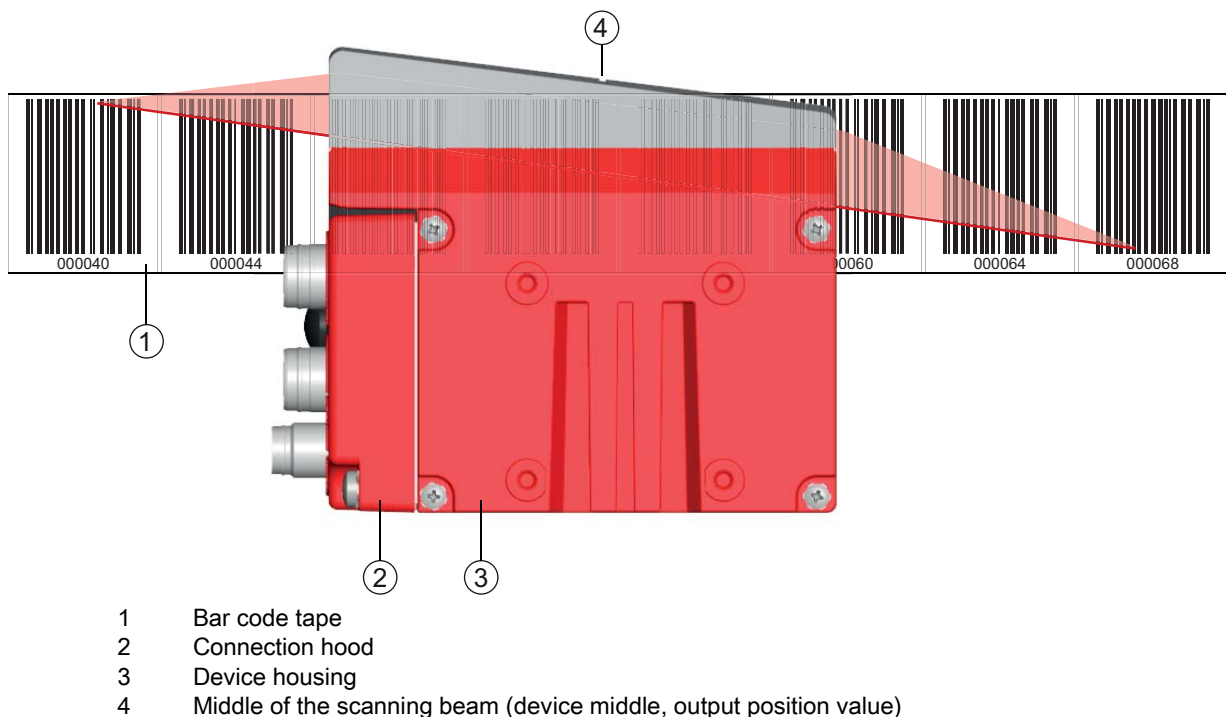

Figure 3.1: Device construction, device arrangement and beam exit
- Read a code on the bar code tape (see figure 3.1)